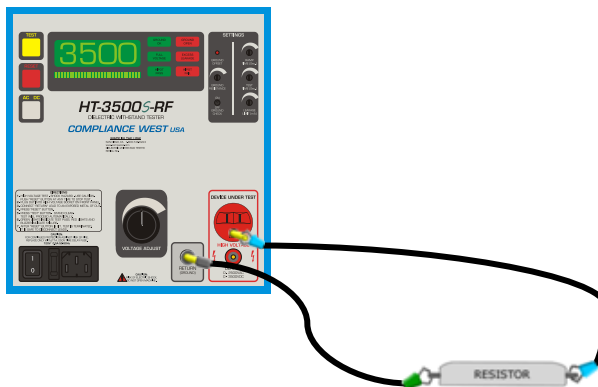

Figure 8. External Resistor Connected to the Ground Continuity Test Circuit.
10. Connect an external resistor on the range of 0.1Ω to 1.5Ω using the leads mention on steps 5 and 6. See Figure 8.
9. Connect an external resistor of 1.0Ω ($\pm 1\%$ tolerance), connect as it shown it in Figure 8.
12. Connect an external resistor of 0.2Ω ($\pm 1\%$ tolerance or better), connect as it shown it in Figure 8.